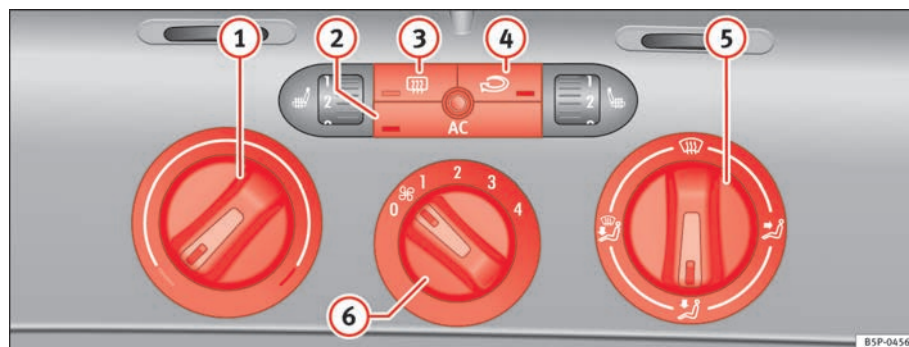

Fig. 108 On the dash panel: Climatic controls
- Using the controls ⇒ fig. 108 ① and ⑤ and the control ⑥ you can set the temperature, air distribution and the turbine speed.
- To switch a function on or off, press the appropriate button ②, ③ or ④. When the function is activated, the display window in the lower corner of the button is lit.
- ① Temperature selector ⇒ page 145
- ② Button **AC** – Heating, ventilation and air-conditioning system on/off ⇒ page 145
- ③ Button – Rear window heating. The heating will be switched off automatically approximately 20 minutes after switching on. It can also be switched off beforehand by pushing the button.
- ④ Button – Air recirculation mode ⇒ page 146
- ⑤ Air distribution control ⇒ page 145
- ⑥ Blower switch. There are four speed settings for the air flow. The air flow should always be set at the lowest speed when driving slowly.
- Switch on the air conditioning using the button ⇒ page 144, fig. 108 .